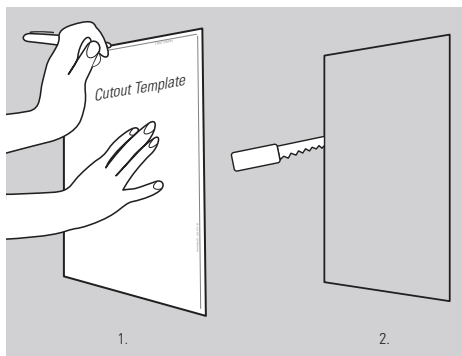

Figure 5
1. Use the provided wall cut-out template to mark the location of the loudspeaker. Use a saw to cut the appropriate size. (Figure 5)